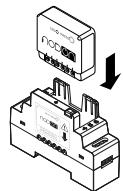

figure 1
① Cut the power supply of the electrical panel.
② Unscrew the relay switch terminals you want to connect.
③ Insert the relay switch on the DIN Rail Box while respecting the direction of insertion of the relay switch, the terminal block must be located on the left (see figure 1).